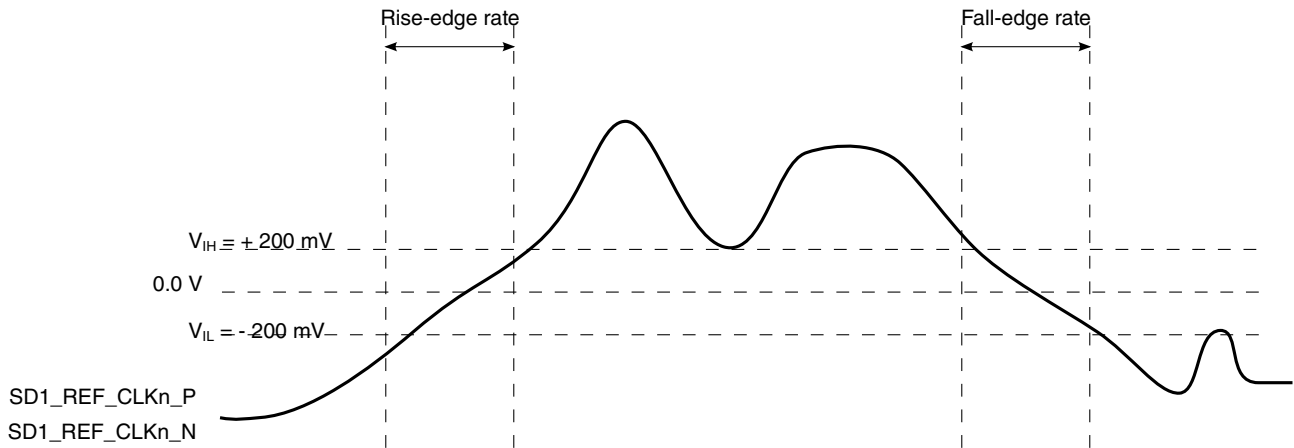

Figure 79. Differential measurement points for rise and fall time
The differential waveform is constructed by subtracting the inverting signal (SD_TXn_N, for example) from the non-inverting signal (SD_TXn_P, for example) within a differential pair. There is only one signal trace curve in a differential waveform. The voltage represented in the differential waveform is not referenced to ground. See Figure 79 as an example for differential waveform.
- Measured from -200 mV to +200 mV on the differential waveform (derived from SD1_REF_CLKn_P minus SD1_REF_CLKn_N). The signal must be monotonic through the measurement region for rise and fall time. The 400 mV measurement window is centered on the differential zero crossing. See Figure 79.